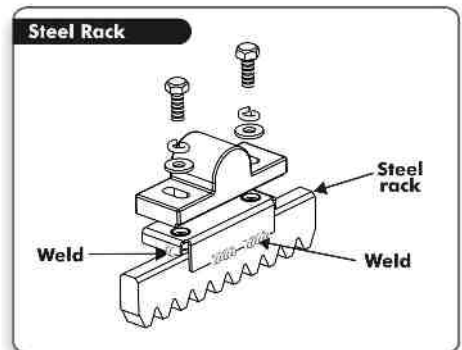

FIGURE 31
3. Mount the origin marker onto the rack using the bracket provided referring to Figure 31 if mounting onto steel rack or Figure 32 if onto nylon angle rack.